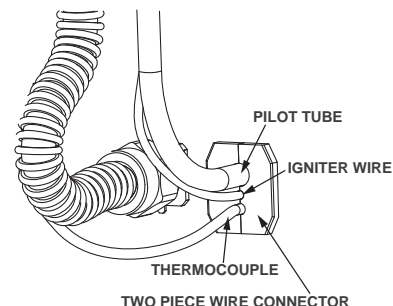

FIGURE 28.
6. Position the new thermocouple through the bottom opening of the two piece wire connector (Figure 28). Be sure igniter wire is positioned through the middle opening of the two piece wire connector.
9. Position the new pilot tube through the largest opening of the two piece wire connector. **NOTE:** The largest opening should be located at the top position. The igniter wire should be located in the middle opening and thermocouple in the bottom opening. (Figure 28)